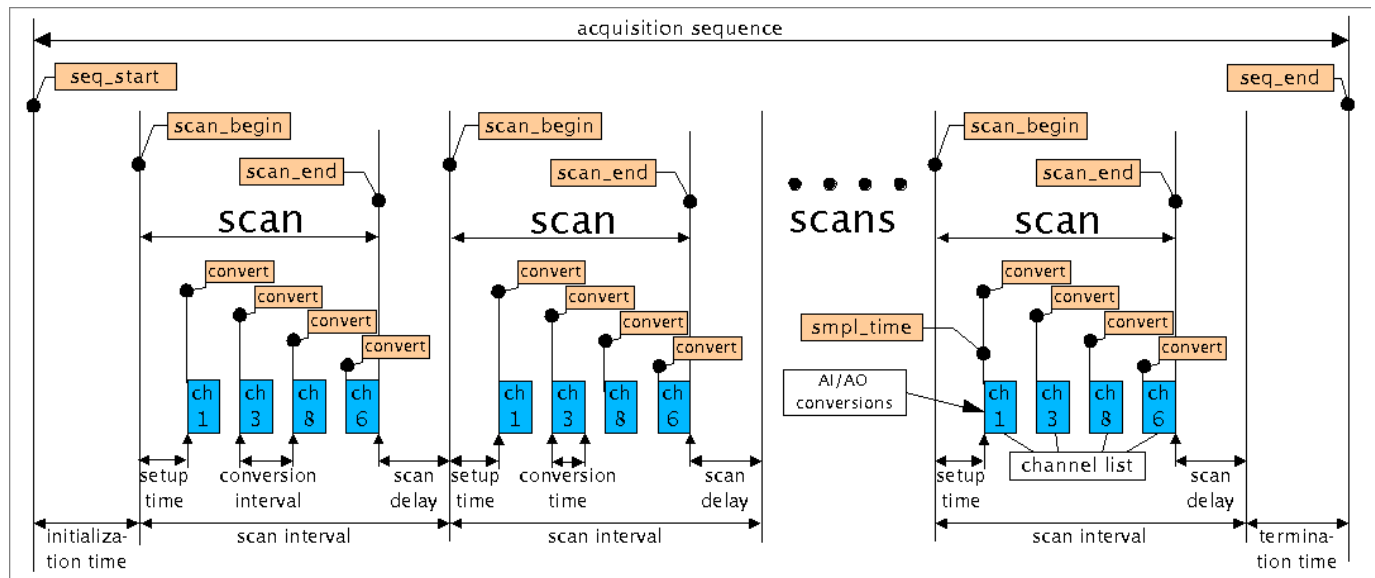

Figure 1: Asynchronous Acquisition Sequence
This Section introduces the terminology that this document uses when talking about Comedi “commands”, which are streaming asynchronous acquisitions. Figure 1 depicts a typical acquisition sequence when running a command:
- Each scan contains one or more **conversions** on particular channels, i.e., the AD/DA converter is activated on each of the programmed channels, and produces a sample, again in a finite **conversion time**, starting from the moment in time called the **sample time** in Figure 1 (sometimes also called the “timestamp”), and caused by a triggering event, called **convert**.
In addition, some hardware has limits on the minimum **conversion interval** it can achieve, i.e., the minimum time it needs between *subsequent* conversions. For example, some A/D hardware must *multiplex* the conversions from different input channels onto one single A/D converter. Thus the conversions are done serially in time (as shown in Figure 1). Other cards have the hardware to do two or more acquisitions in parallel, and can perform all the conversions in a scan simultaneously. The begin of each conversion is “triggered” by some internally or externally generated pulse, e.g., a timer.